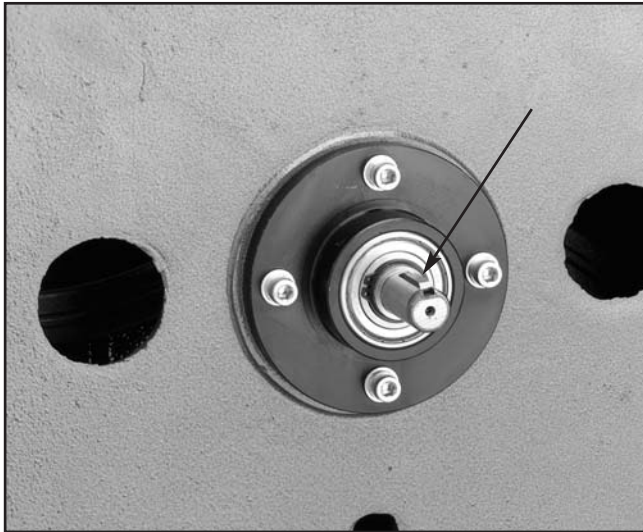

Figure 12. Key in wheel pulley shaft.
1. Locate the upper pulley from your loose parts. Make sure the key is in the upper pulley shaft keyway as shown in **Figure 12**.